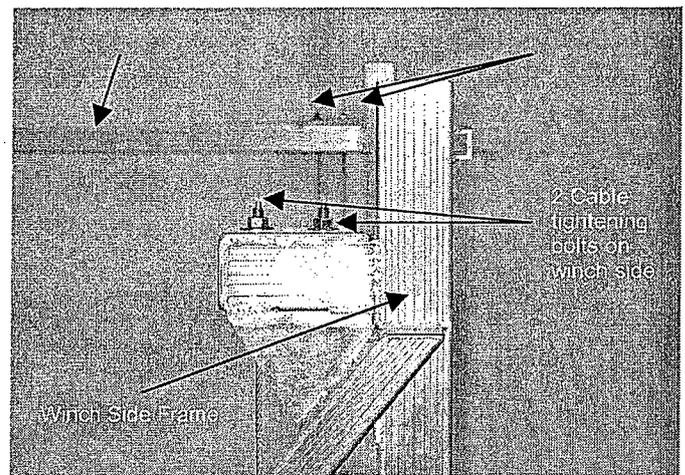

FIG. 17
3. Place the two threaded cable ends through the mounting holes on the winch side frame (See FIG. 17).
5. Locate the two cables protruding out of the carriage side tube on the far side (See FIG. 17) and repeat the above steps on these two cables.